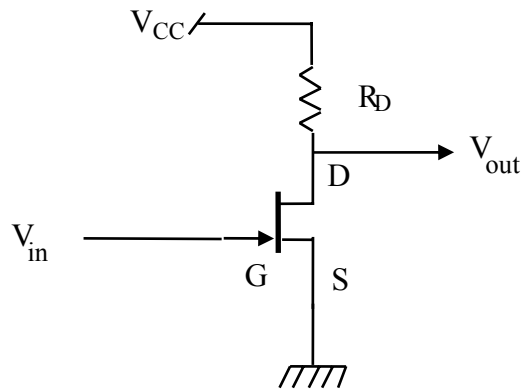

Figure 8.2 Common Source Amplifier Stage
A JFET common-source amplifier stage is shown in Fig. 8.2. To keep things simple we are supposing that the input signal has a dc value of 0 V, so the desired quiescent gate voltage ( $V_{GS} = 0$ ) is achieved without the need for a dc blocking capacitor and a voltage divider like we used for our bipolar common-emitter amplifier. A small change in the input voltage  $\delta V_{in}$  causes a change in the drain current equal to  $g_{fs} \cdot \delta V_{in}$ , and this current dropped across the drain resistor  $R_D$  causes an output voltage  $\delta V_{out} = -R_D \cdot g_{fs} \cdot \delta V_{in}$ . Thus, the voltage gain of this stage is simply  $G = -R_D \cdot g_{fs}$ . For typical values of  $R_D$  and  $g_{fs}$  the gain of a single JFET common-source stage is in the range 5-20, much less than the maximum gain possible with a bipolar common emitter stage.
1. Consider the common-source amplifier circuit of Fig. 8.2. Suppose you build this circuit with the JFET used to generate the output characteristics shown in the 2N4416A data sheet, lower right plot on page 7.3. If we use  $V_{CC} = 9\text{ V}$ , and we want  $V_{DS} = 3\text{ V}$  at  $V_{GS} = 0$ , what value of  $R_D$  should we use? What will the value of  $I_D$  be? What value of  $R_D$  should we use if  $V_{CC}$  is 18V, and what will  $I_D$  be in this case?
Construct the common-source amplifier shown in Fig. 8.2. Use a 9V battery for the drain voltage source. First, measure the battery voltage. Then, compute, using your characteristic curves, the value of  $R_D$  that will give  $V_{DS} = +3V$  at  $V_{GS} = 0$ , and also predict the small-signal voltage gain. If your predicted gain is less than 5, increase your power supply voltage by using two 9 V batteries in series and compute  $R_D$  and the gain again. Find a metal-film resistor close to your desired value of  $R_D$  (or use several in series) and measure the resulting quiescent voltage  $V_{DS}$  with the gate grounded. Is the value of  $V_{DS}$  you observe consistent with your measured characteristics?